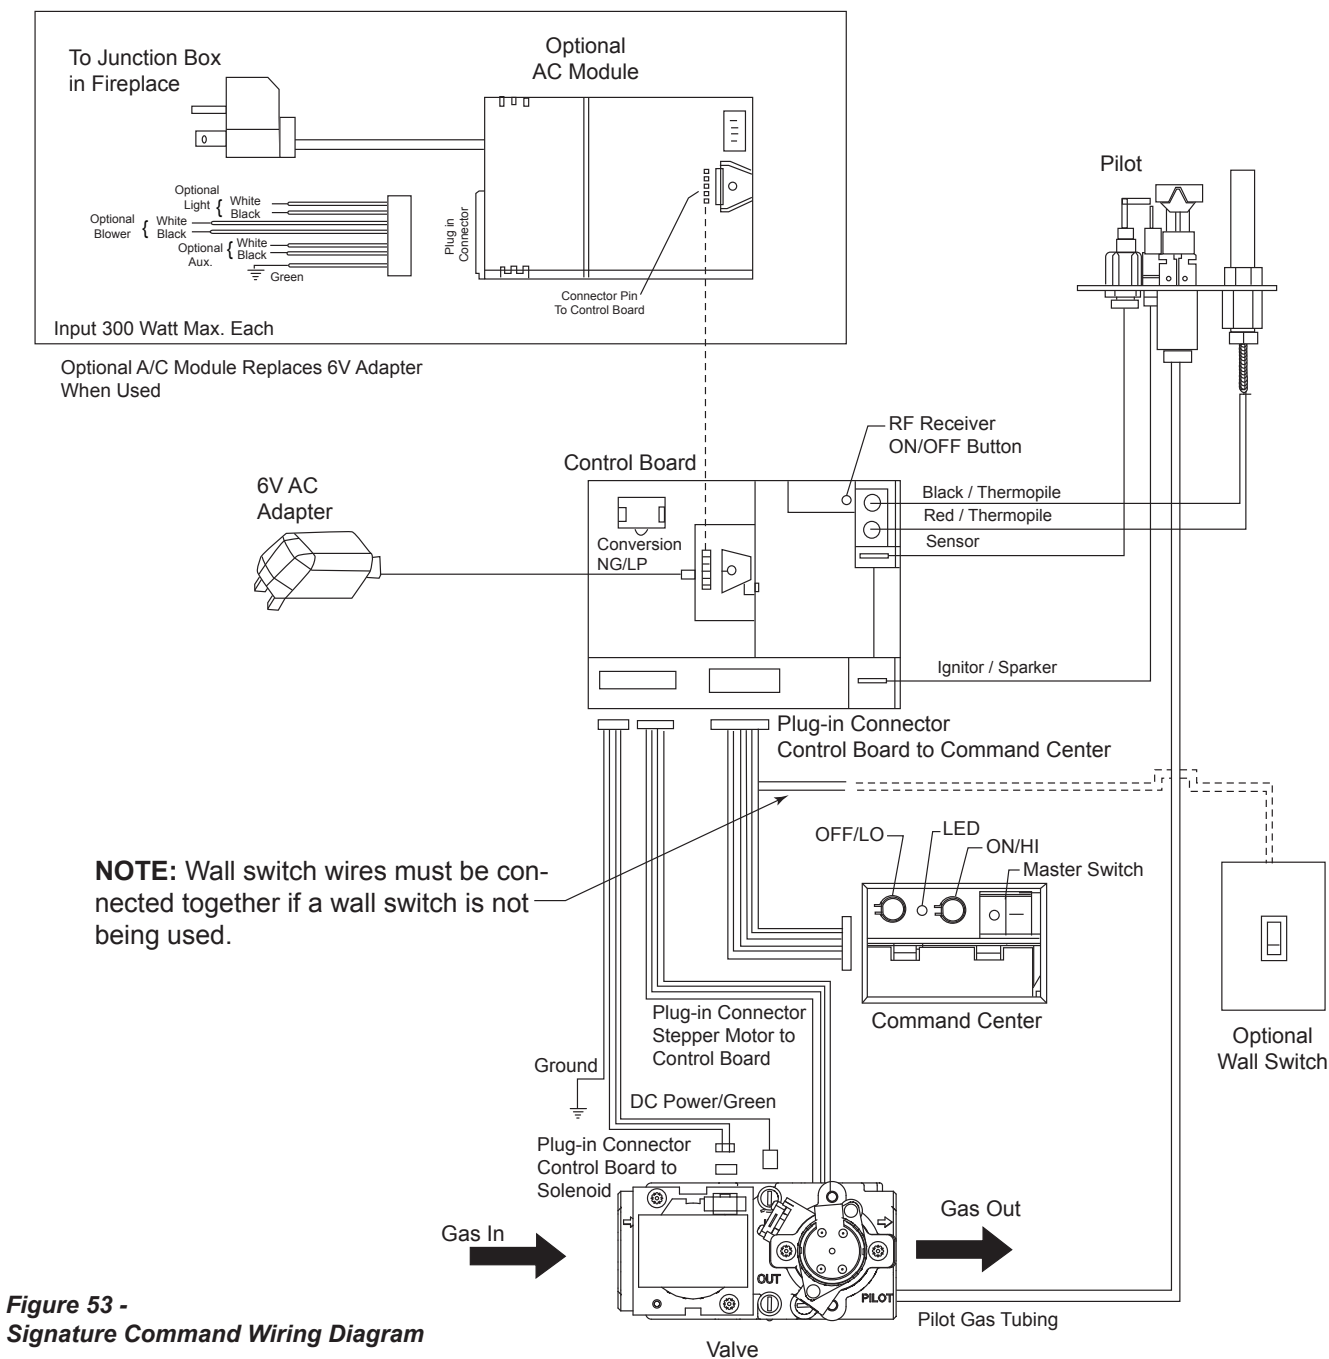

Figure 53 -
The wall switch wire connection is located off the 2 ft. wire harness from the control box to the command center. *Figure 53*. The connection is labeled "Wall Switch". Unplug the male and female connectors and connect the two (2) low voltage wires provided. Run wire to desired location on wall. Up to 50 ft. of 18 ga. wire may be used if necessary. Attach wires to wall switch. Mount the wall switch in to junction box and screw on cover.